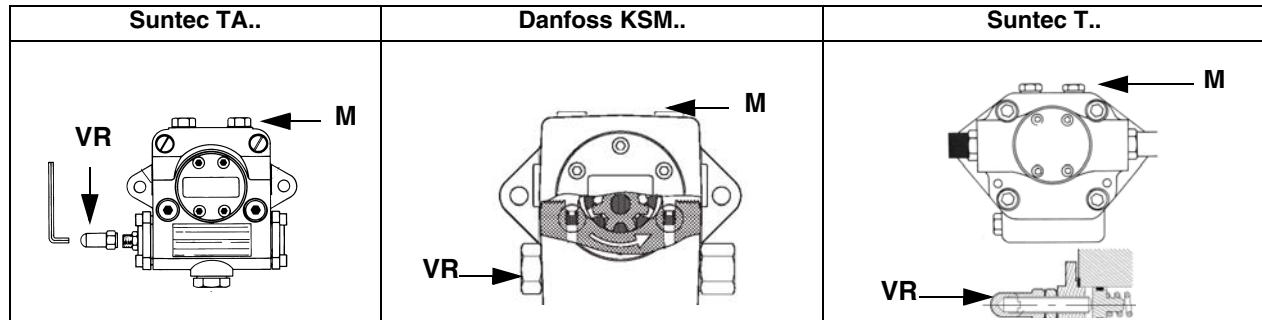
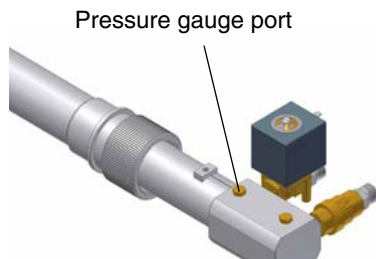
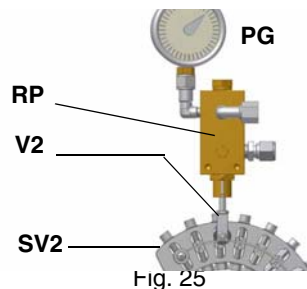

Fig. 23
Fig. 24
Fig. 25
- 3 bleed the air from the **M** pressure gauge port (Fig. 23) by loosening the cap without removing it, then release the contactor.
- 9 the nozzle supply pressure is already factory-set and must not be changed. Only if necessary, adjust the supply pressure as follows (see related paragraph); insert a pressure gauge into the port shown on Fig. 24 and act on the pump adjusting screw **VR** (see Fig. 23 and page 21) as to get the nozzle pressure at 20 bar or 25 bar (according to the nozzle model provided: Bergonzo or Flui-
The nozzle supply pressure is already factory-set and must not be changed. Only if necessary, adjust the supply pressure as follows (see related paragraph); insert a pressure gauge into the port shown on Fig. 25 and act on the pump adjusting screw **VR** (see Fig. 23 and page 21) as to get the nozzle pressure at 20 bar or 25 bar (according to the nozzle model provided: Bergonzo or Fluidics nozzles - see page 32-33).